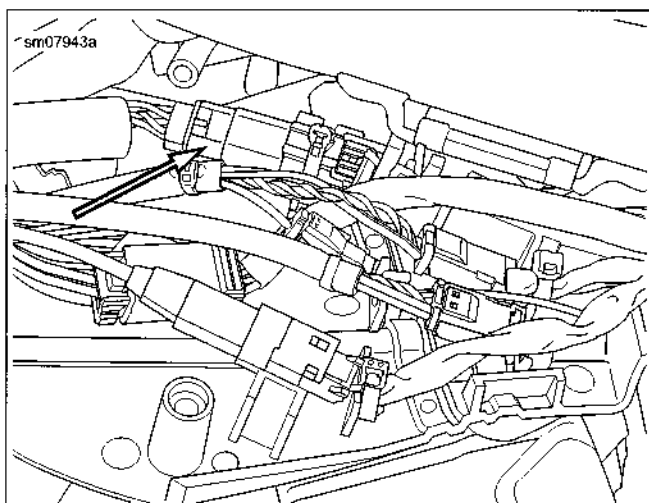

Figure 6-38. Instrument Connector [20]
- b. See Figure 6-38. Locate instruments connector [20] on right wire harness caddy.